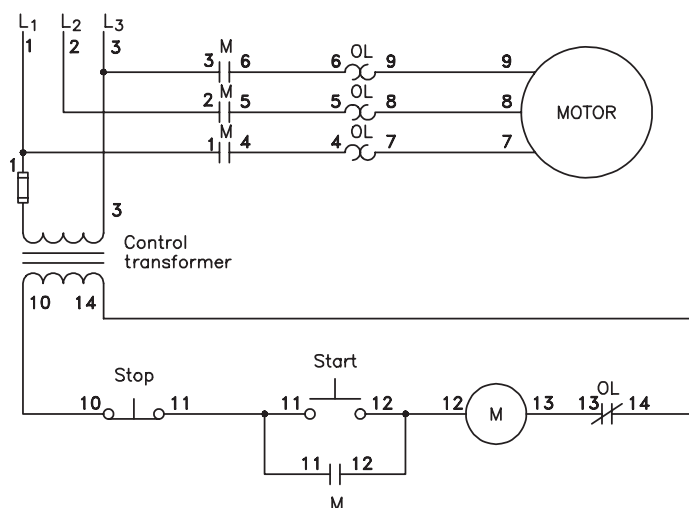
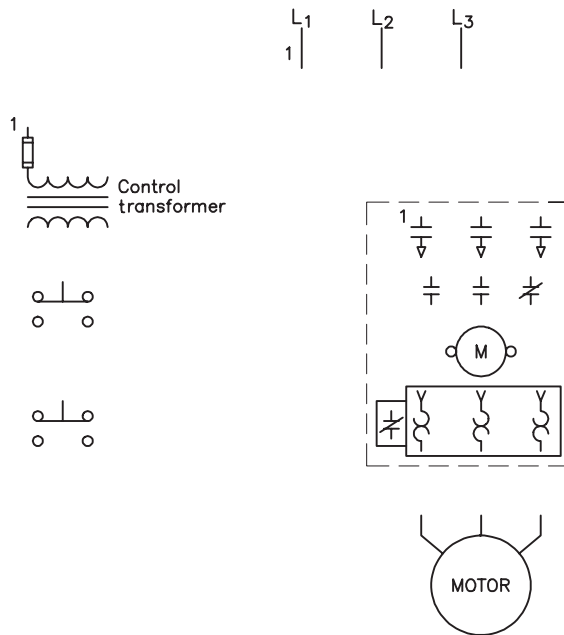
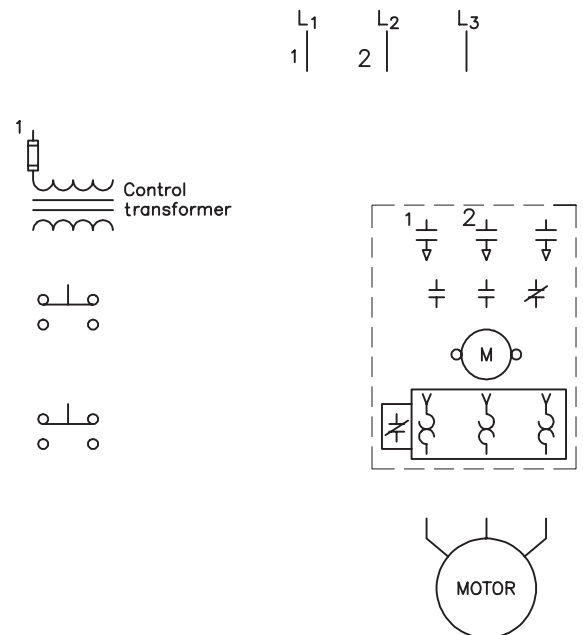

Figure 26-7 Numbers are placed beside all components.
Figure 26-8 A 1 is placed beside L_1 , the control transformer fuse, and M load contact.
Figure 26-9 The number 2 is placed beside L_2 and the second load contact on M starter.
The number 10 will begin at one side of the control transformer secondary and go to one side of the normally closed stop push button. The number 11 is placed on the other side of the stop button and on one side of the normally open start push button and normally open M auxiliary contact. A number 12 is placed on the other side of the start button and M auxiliary contact and on one side of M coil. Number 13 is placed on the other side of the coil to one side of the normally closed overload contact. Number 14 is placed on the other side of the normally closed overload contact and on the other side of the control transformer secondary winding. See Figure 26-7.
Now that the components on the schematic have been numbered, the next step is to place the same numbers on the corresponding components of the wiring diagram. The schematic diagram in Figure 26-7 shows that the number 1 has been placed beside L_1 , the fuse on the control transformer, and one side of a load contact on M starter (Figure 26-8). The number 2 is placed beside L_2 and the second load contact on M starter (Figure 26-9). The number 3 is placed beside L_3 , the third load contact on M starter, and the other side of the primary
To connect the control circuit, follow the same procedure that was used to develop the wiring diagram. Use the schematic diagram shown in Figure 26-7. It is sometimes helpful to use a highlighter to mark the diagram as connections are made.
1. Refer to the circuit shown in Figure 26-7. If wire number 11 were disconnected at the normally open auxiliary M contact, how would the circuit operate?
4. Refer to the schematic in Figure 26-7. Assume that when the start button is pressed, the control transformer fuse blows. What is the most likely cause of this trouble?